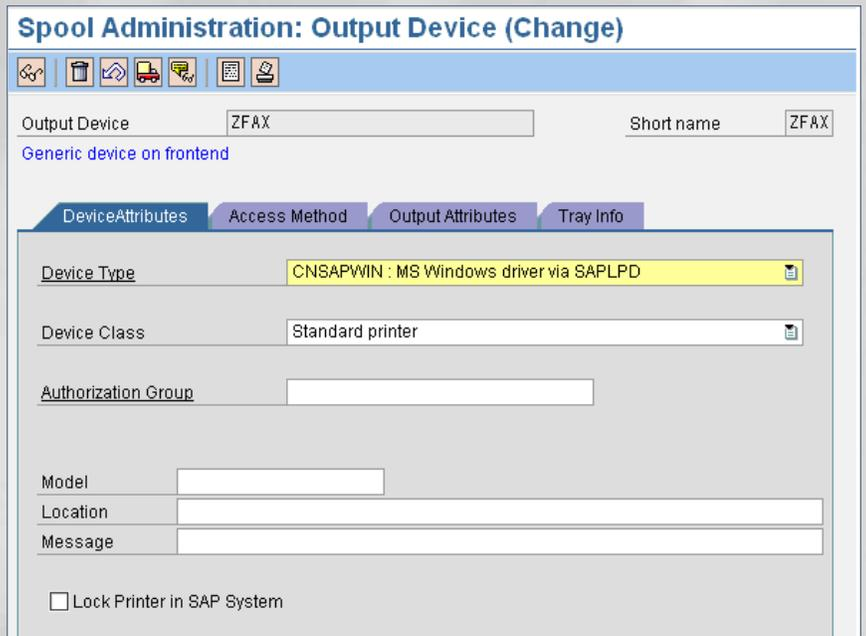

Figure 4: Configure the Device Attributes
- Next we populate two key fields under the “Device Attributes” tab (Figure 4). These settings may vary depending on your release. Select the device type “CNSAPWIN – MSWindows driver via SAPLPD” from the drop-down list.